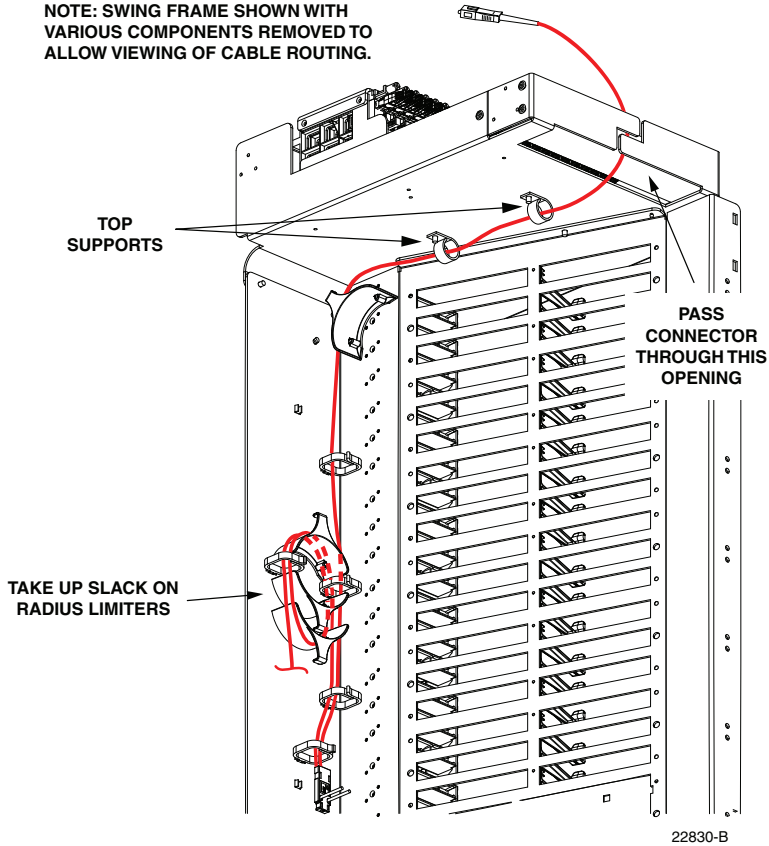

Figure 77. Re-Routing the Feeder Cable Fiber
7. When the feeder cable connector and fiber are free, pass the connector through the opening located behind the splitter compartment as shown in Figure 77.